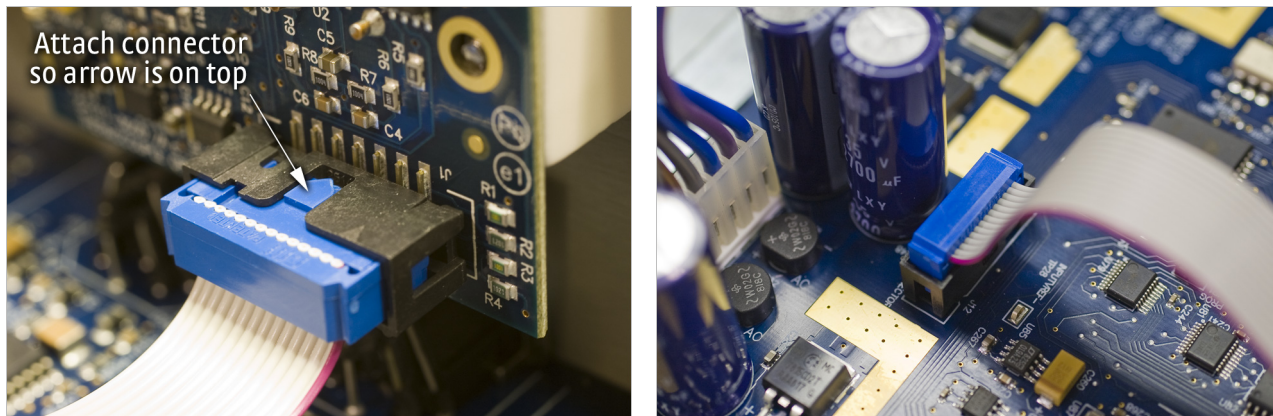

FIGURE 7-5 Proper orientation of the ribbon cable connector plug
10. *This step is not applicable to the 3062 option card.* Insert the 14-pin ribbon cable connector plug into the socket on the option board. Orient the ribbon cable connector plug so that the arrow nub slides into the plug slot, and the ribbon cable exits downward (FIGURE 7-5).